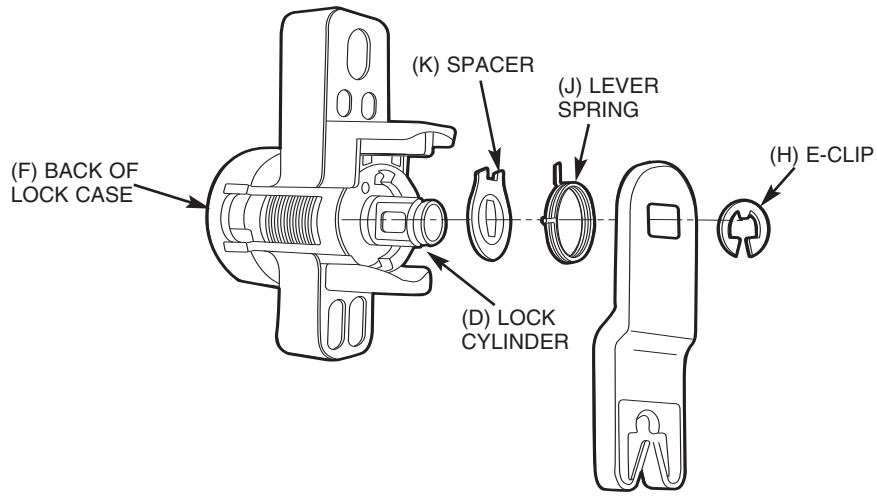

**FIGURE 2**
- 1c. Using the customer's key, measure the key cut depth at each key station (refer to Figure 2).